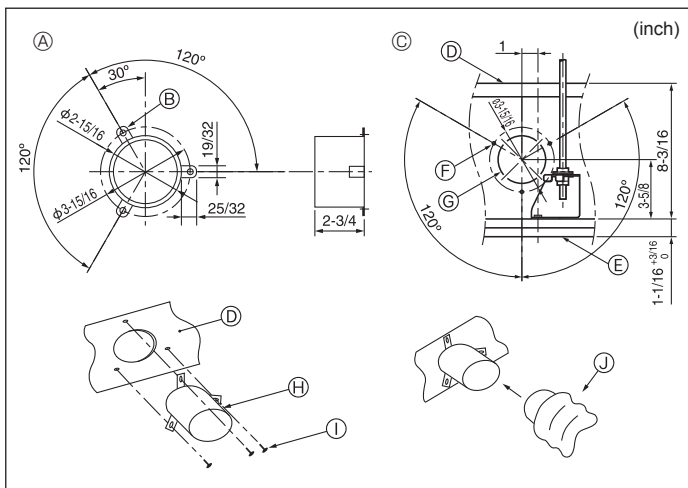

Fig. 3-3
3.3. Installation of duct (in case of fresh air intake) (Fig. 3-3)